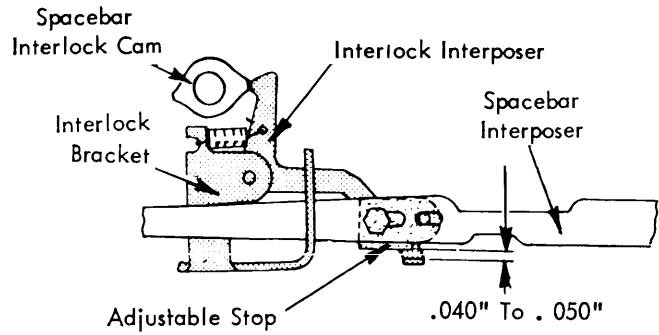

FIGURE 124. Interlock Bracket Adjustment
- b. With the machine latched at rest and the spacebar interposer released to the rear, adjust the interlock bracket front or rear to obtain a clearance of .040" to .050" between the interlock interposer and the adjustable stop on the spacebar interposer (Fig. 124).